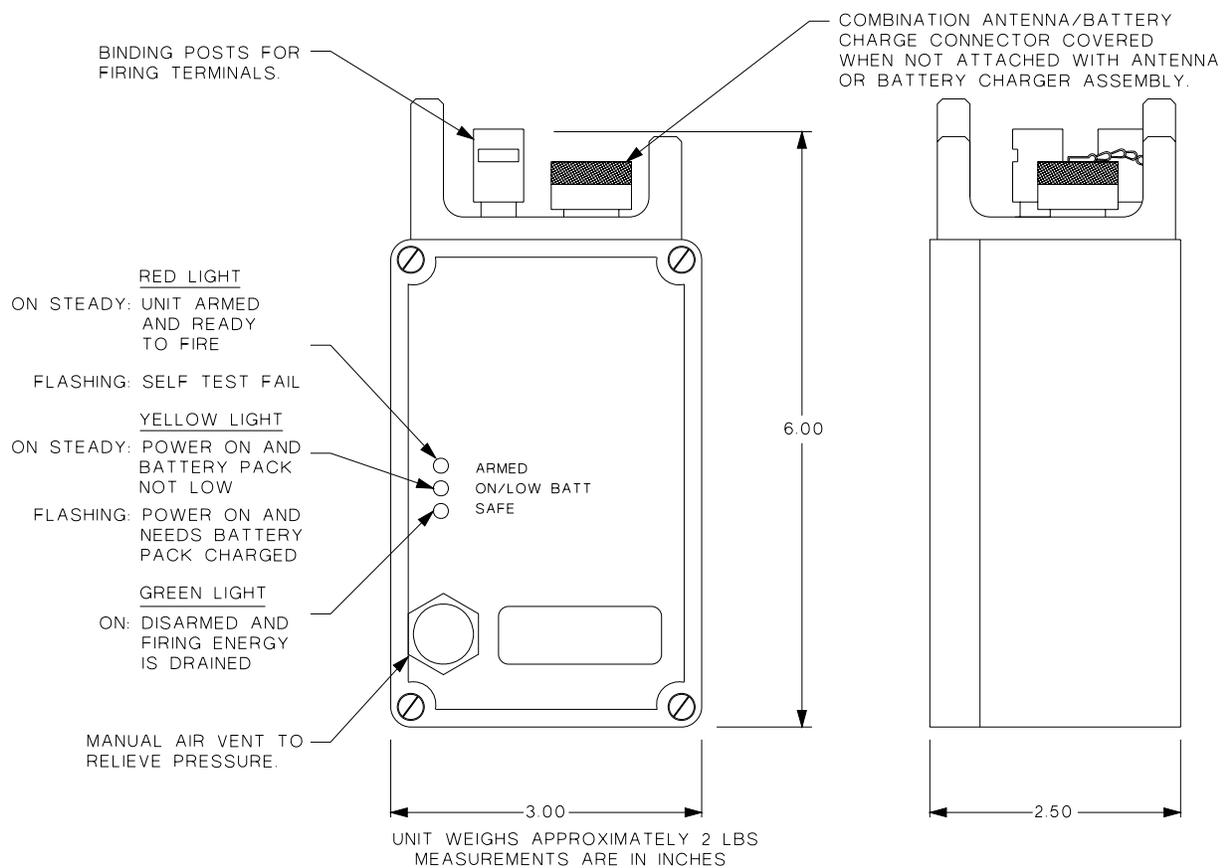

Figure 2-3 Remote Unit.
2.5.1. Figure 2-3. Provides the physical size, weight, and front panel lights on the Remote Unit. The unit is sealed at the manufacturer or repair depot and should not be opened during field activity. The Remote Unit operates in a sleep mode to extend battery life. The Remote Unit turns off the display lights while it is sleeping. The Remote Unit wakes up every 2 seconds to check for a radio signal from the Controller Unit. The Remote Unit will stay awake for 2 minutes if it detects a radio signal addressed to it during its wake time. During those 2 minutes, the display lights will be illuminated as described in Figure 2-3. When the antenna is installed on the Remote Unit, the Remote Unit performs a self-test of its electronics. The red light will flash on the Remote Unit if the self-test fails. The Remote Unit should not be used, and should be returned for repair, if the red light is flashing.